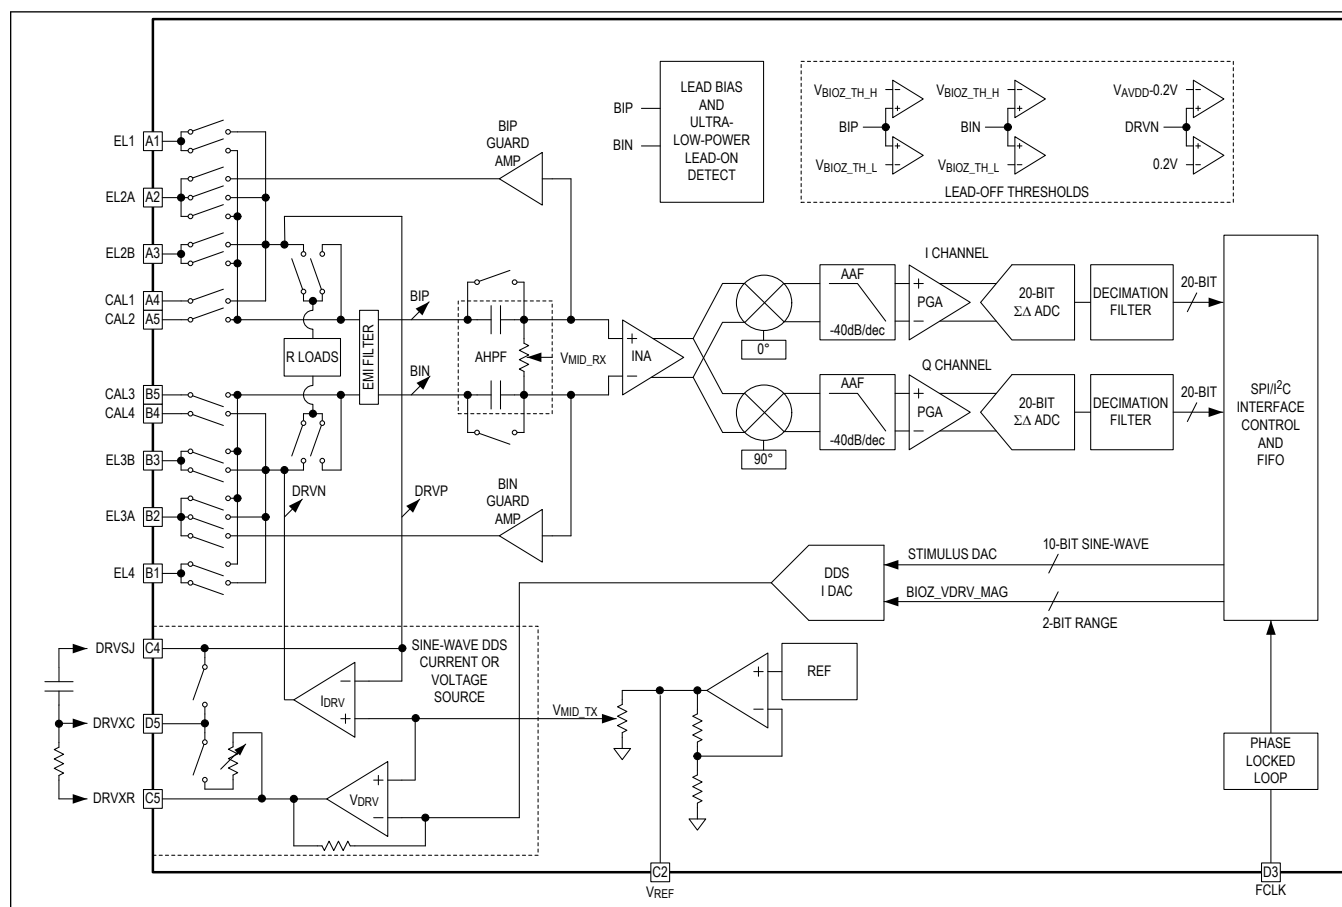

Figure 4. BioZ System Block Diagram
The BioZ system in Figure 4 primarily consists of a transmit (TX) channel, a receive (RX) channel, and an input/output MUX. The BioZ system supports calibration using internal or external calibration resistors, enabling 0.1% accuracy in the